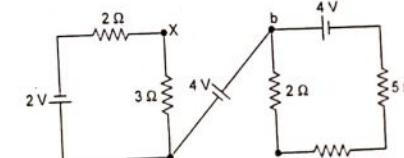

Fig. 1.11.4
**Sol.:** The branch currents are shown in the Fig. 1.11.4 (a). Apply KVL to the loop cxaac,